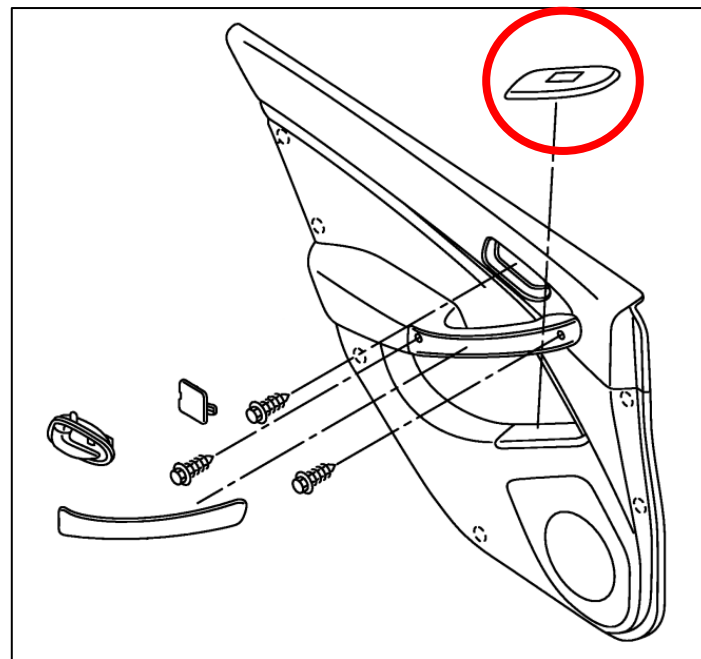

Figure 28
5. Pry up the Door Control Panel using a Trim Removal Tool. *Figure 28.*